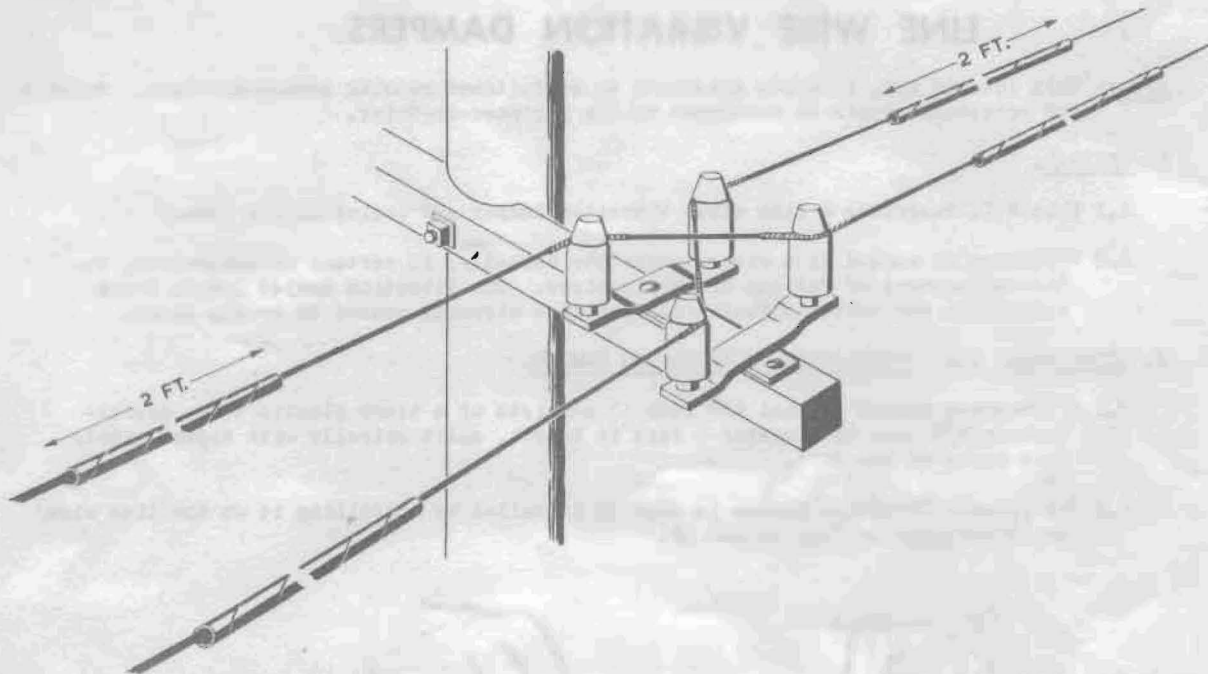

FIG. 2. VIBRATION DAMPERS INSTALLED ON LINE WIRES.
2.3 A Vibration Damper should be installed on an aerial line wire near the pole. About 2 feet of Vibration Damper (i.e. half of the Vibration Damper as supplied) should be used. (See Fig.2). As it is loose on the wire, the Vibration Damper will move in the span and come to rest at a suitable point.